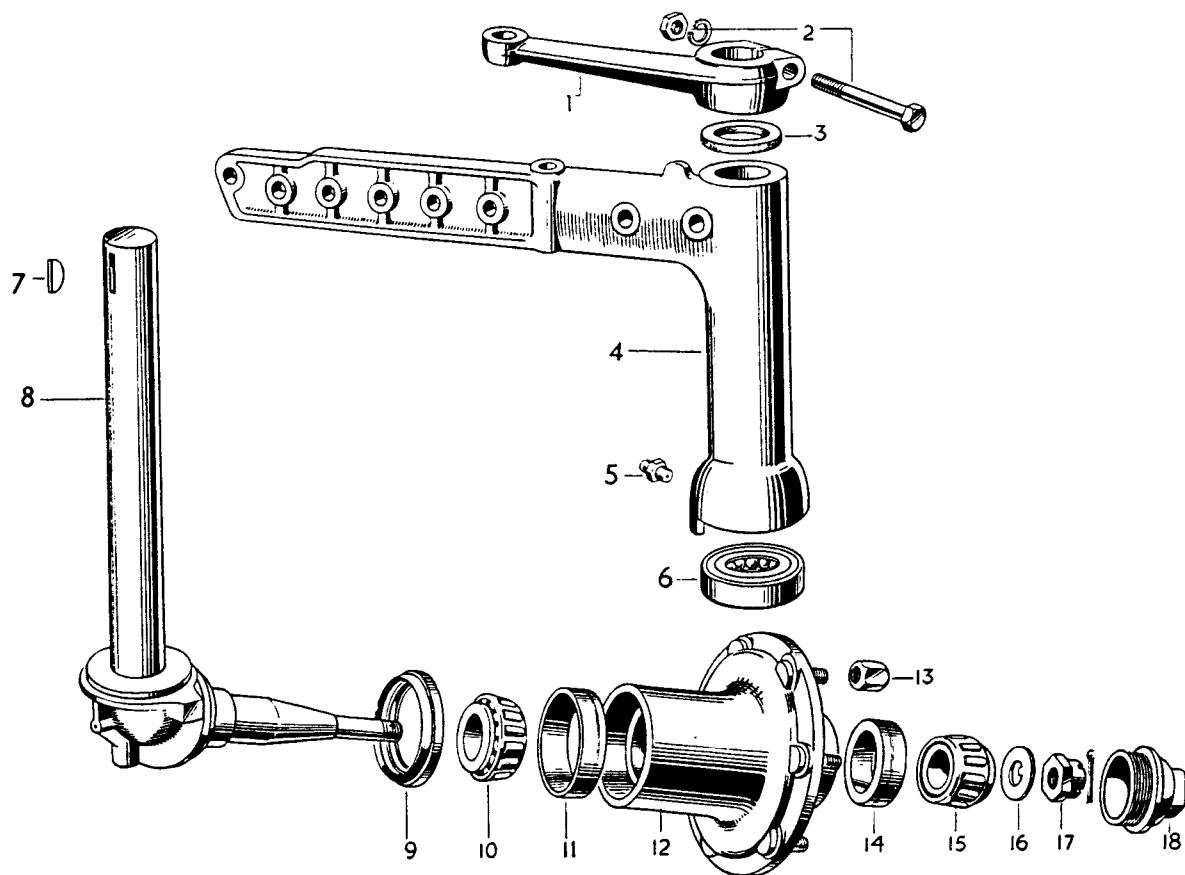

FIG. 3
For each spindle proceed as follows, referring to Fig. 3.
1. Remove lubricator (5, Fig. 3) and smear bush locating bores with oil.
Each mounted on two taper roller bearings (11) and (14) see Fig. 3, lubricated from oil reservoir of  $\frac{5}{8}$  pint (.3 litres) contained in hub casing and retained by oil seal and gasket.
Support weight of engine by jack under axle support bracket, then for each hub, proceed as follows, with reference to Fig. 3.